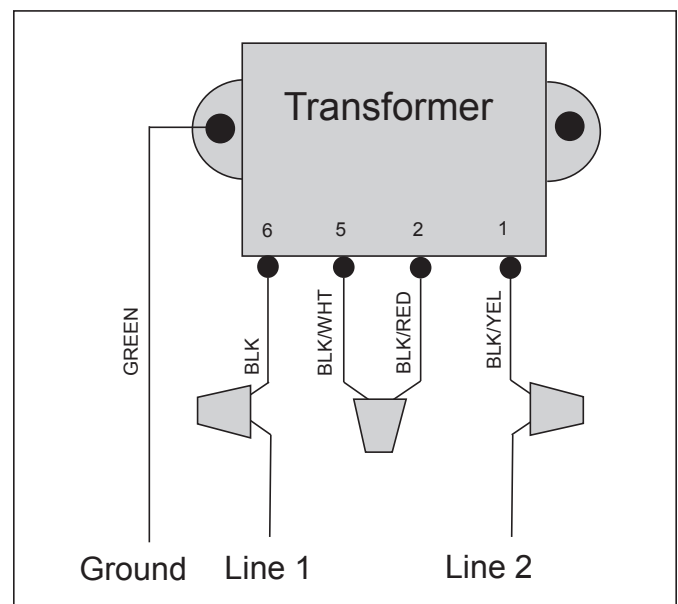

Figure 3. Factory Wiring for 220 Volt Operation
Model K-2100 is factory wired for 220VAC service. If the available electrical service is 110VAC, the power supply wiring must be changed to operate on 110VAC, as shown in Figures 3 and 4.
4. For 220 volt operation, connect the black wire to line 1 and connect the black wire with the yellow stripe to line 2. See Figure 3.
Refer to Figures 3 and 4 and do the following:
1. Cut the splice cap connecting the black/white and the black/red wires. See Figure 3.